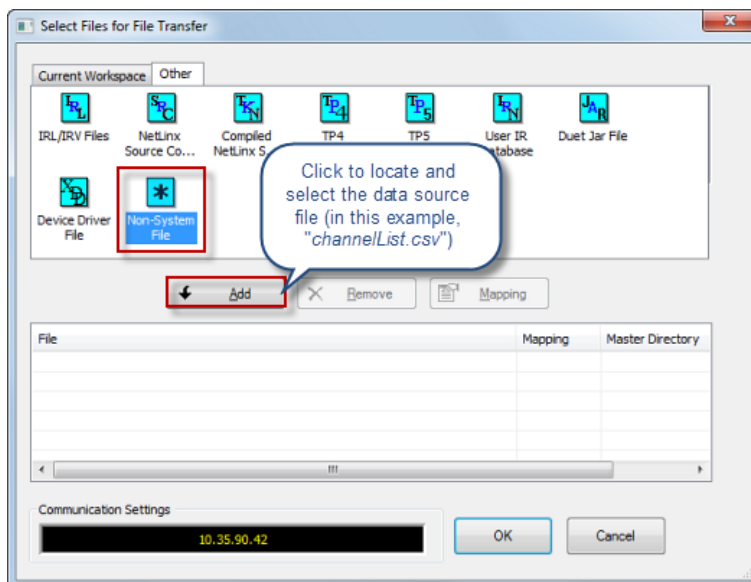

FIG. 137 NetLinx Studio 4 - Select Files for File Transfer dialog
3. Click **Add** to open the *Select Files for File Transfer* dialog, and open the *Other* tab (FIG. 137):